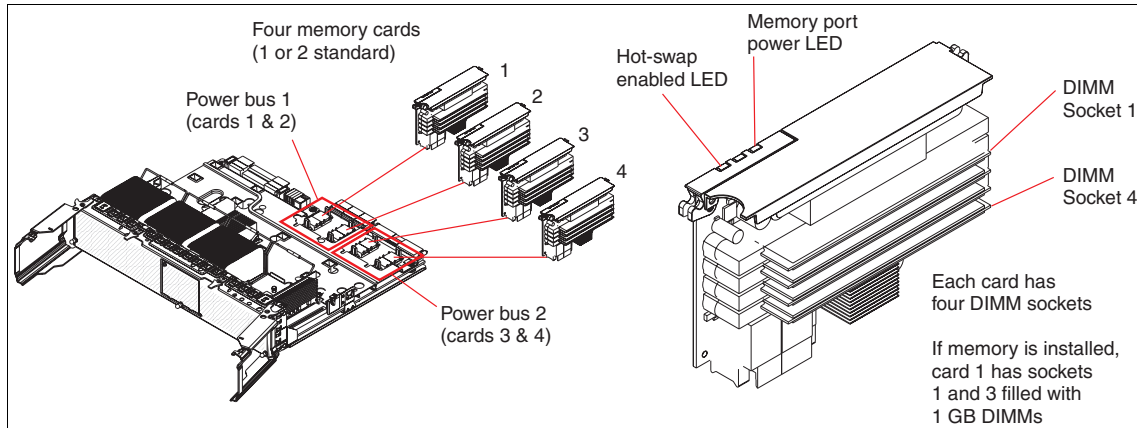

Figure 3-3 Memory implementation
The memory cards connect directly into the system planar and are powered by two separate memory power buses (two memory cards on each bus). As shown in Figure 3-3, memory cards 1 and 2 are on power bus 1, and memory cards 3 and 4 are on power bus 2. The power arrangement is of particular importance with the hot-swap and hot-add functions, as discussed in 3.2.2, “Hot-swap memory” on page 99 and 3.2.3, “Hot-add memory” on page 100 respectively.
The system memory uses ECC DDR2 DIMMs meeting the PC2-3200 standard. The DIMM layout of the memory cards is also shown in Figure 3-3.
- ▶ Memory is two-way interleaved to ensure maximum data throughput. As a result, the DIMMs are always installed in pairs of the same size and type to populate a memory bank. Banks are DIMM sockets 1 and 3 and 2 and 4, as shown in Figure 3-3 on page 96.
To understand what memory mirroring and hot-swap capabilities exist with the server, you must first understand how the memory cards are powered. The system planar has two separate memory power buses that are split between the four memory cards. As shown in Figure 3-3 on page 96, memory cards 1 and 2 are on power bus 1, and memory cards 3 and 4 are on power bus 2.
To easily identify whether hot-swap is enabled and the status of power to the memory card, each memory card has a green *memory hot-swap enable* LED, and a green *memory port power* LED on the top panel of the memory card, as shown in Figure 3-3 on page 96. The memory card has eject levers with sensors, so that the system can recognize when a memory card is being removed and power down that card's slot accordingly.